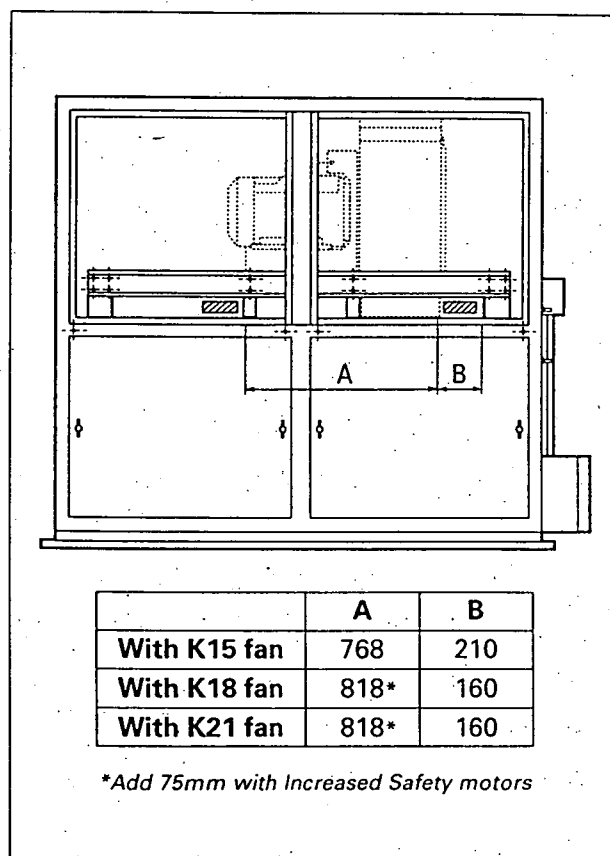

**Fig. 10 Fork lift positions for UMA 450**
- 4 The unit can now be lifted, using a fork lift by positioning the forks underneath the seal frame. Care should be taken not to damage the seal frame rubber seal and the back of the unit. The forks used should be long enough to reach the back of the unit and set as wide as possible. On the UMA 40-250 units the forks should be positioned centrally across the front. On the UMA 450 the forks should be positioned as shown in Fig. 10.